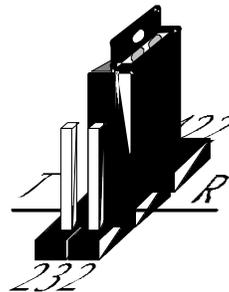

figure 4.21 422 communications jumper setting
2. Set the enclosure's serial port jumpers (J1 and J2 on the CPU board) for RS-422 communications, see figure 4.21.